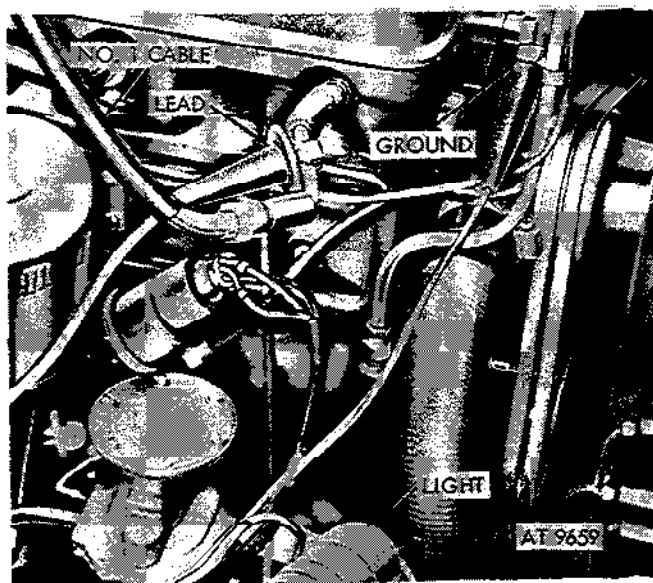

Figure 2-161. Connect timing light.
(1) Remove No. 1 spark plug cable (fig. 2-161) from spark plug, place timing light adapter on spark plug, and attach spark plug cable to timing light adapter.
(2) Connect timing light leads to timing light adapter, ground, and battery (fig. 2-161).